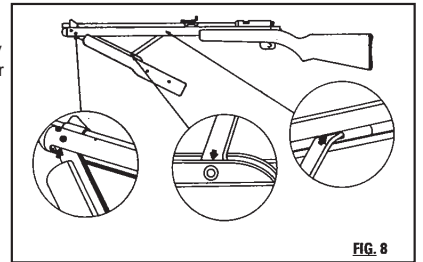

FIG. 8
- Your airgun will maintain proper function longer if you oil it every 250 shots. Put 1 drop of Crosman Pellgunoil® on the pump lever pivots and rivets. (Fig 8) DO NOT use petroleum distillate based oil or solvent and DO NOT over-oil as this can cause damage to your gun.